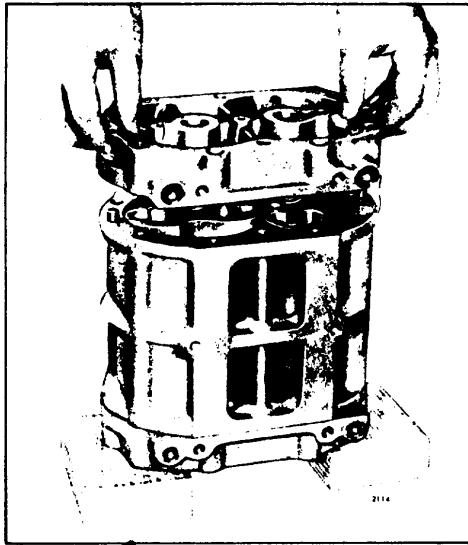

Fig. 7. - Installing Rear End Plate
3. Install the blower housing over the rotors (Fig. 7.).
4. Place the rear end plate over the rotor shafts (Fig. 7.).